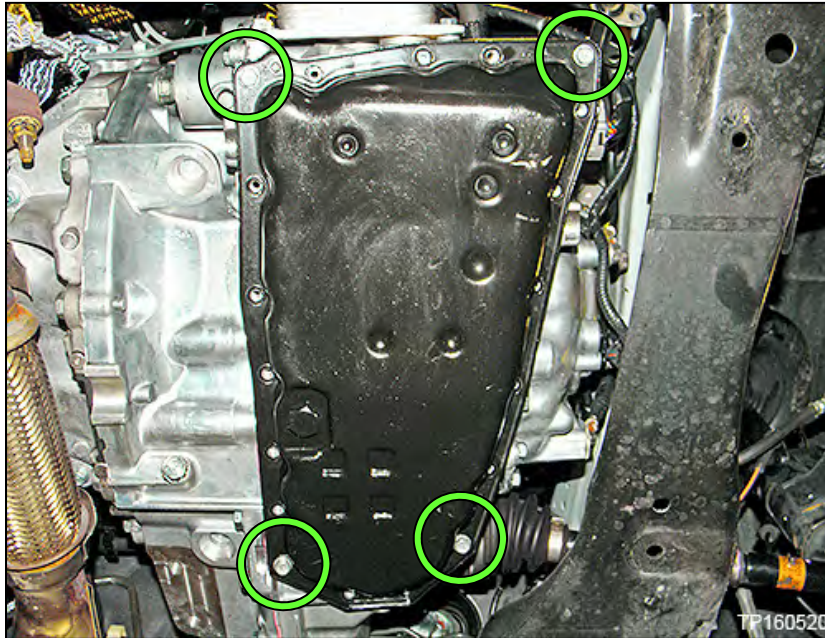

Figure 25
9. Temporarily install the oil pan gasket and oil pan with four oil pan bolts to corners of the oil pan, hand tight (Figure 25).